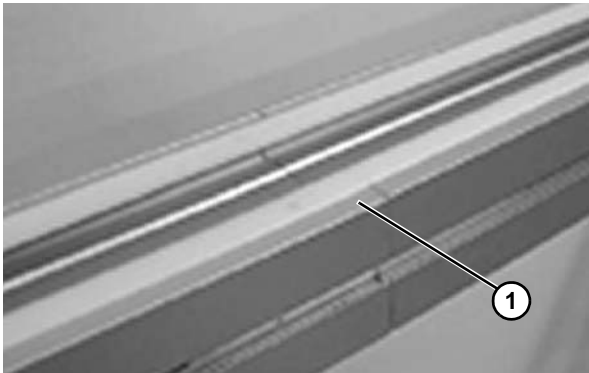

Figure 33
- The slide rail (**Figure 33, item 1**) must be mounted across the entire beam section. Remember to mount slide rails on both top and bottom side of the beam (unless top running chain only).